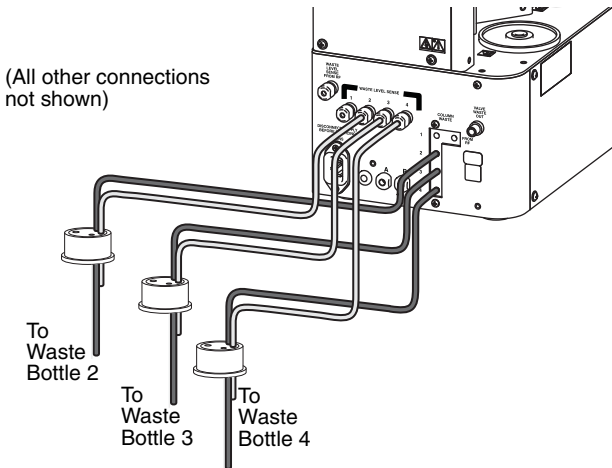

Figure 4-7 Channels 2 through 4 waste tubing connections
6. Using one of the three remaining waste line assemblies and waste caps, complete the waste connections for channel 2 as shown in Figure 4-7.
7. Using the three remaining waste line assemblies and waste bottle caps, complete the waste connections for channels 2 through 4 as shown in Figure 4-7.